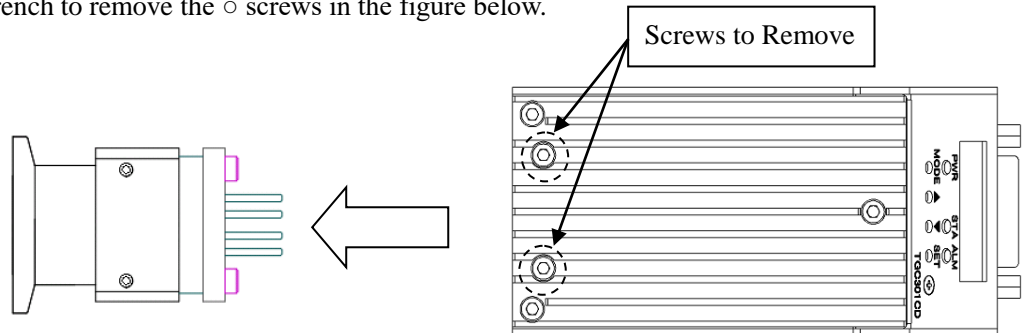

Fig. 10. Sensor Removal (For the NW25 Type)
(6) Put the controller and sensors together and fasten with screws. (Refer to “Fig. 10. Sensor Removal”)